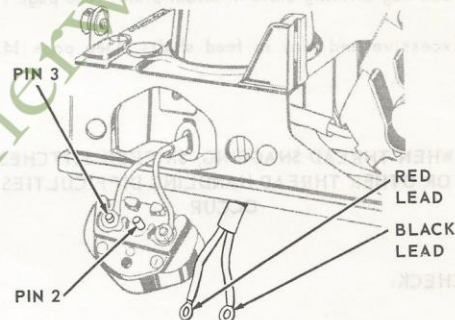

Fig. 51. Removing Three-Pin Terminal
4. From reverse side of terminal, disconnect black motor lead from terminal pin 2 and red lead from terminal pin 3, as shown in Fig. 51.